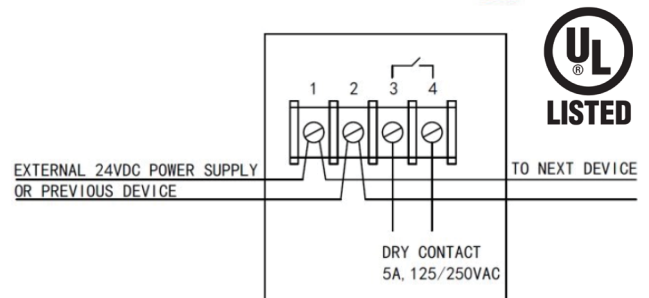

Figure 2. Wire Drawing
2. Connect the wires, see Figure 2. There is no polarity distinction between terminal 1 and terminal 2.